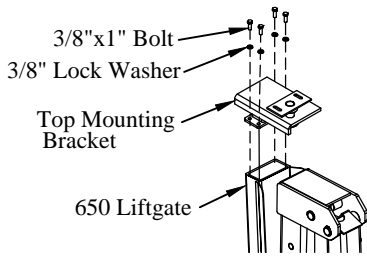

Figure 6: Top mounting bracket.
4. **Attach** the top mounting bracket with the 3/8" x 1" bolts and lock washers (Figure 6).